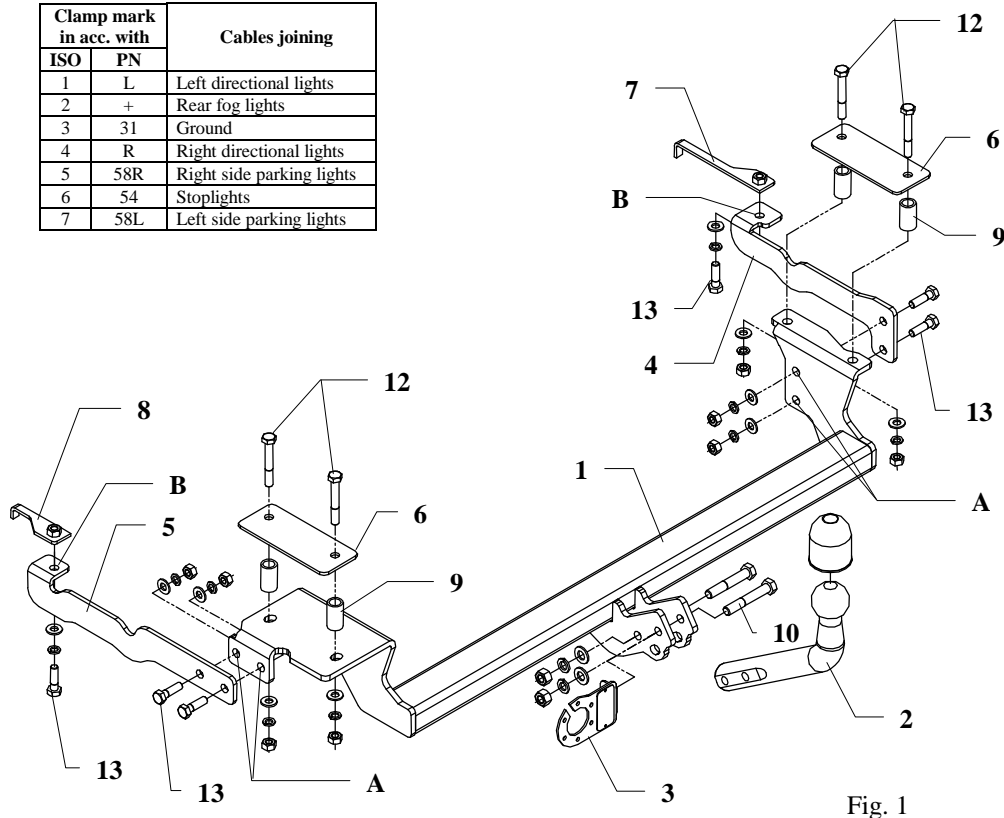

Fig. 1
- Drill again holes only from inside boot using bit $\varnothing 22\text{mm}$. To drilled holes put distance sleeves $\varnothing 22$, $L=37\text{mm}$ (pos. 9), and top put fish-plates (pos. 6) as shown on the drawing. Insert bolts $M10 \times 70\text{mm}$ (pos. 12).
- On prominent bolt put main bar of the towbar (pos. 1) and fix loosely.
- Fix side brackets (pos. 4 and 5) as show on the drawing using bolts $M10 \times 35\text{mm}$ (pos. 13) through holes A. Fix by bolts $M10 \times 35\text{mm}$ (pos. 13) through holes B with jibs (pos. 7 and 8). Jibs place inside chassis frames through longitudinal holes.
- Fix tow ball (pos. 2) using bolt $M12 \times 75\text{mm}$ (pos. 10) and $M12 \times 70\text{mm}$ (pos. 11). With bolt $M12 \times 75\text{mm}$ fix also a socket plate (pos. 3). See figure 1.